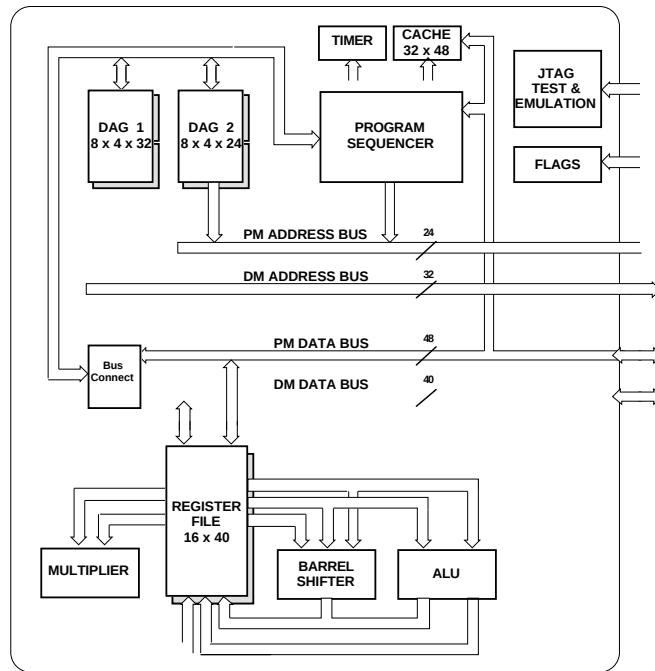
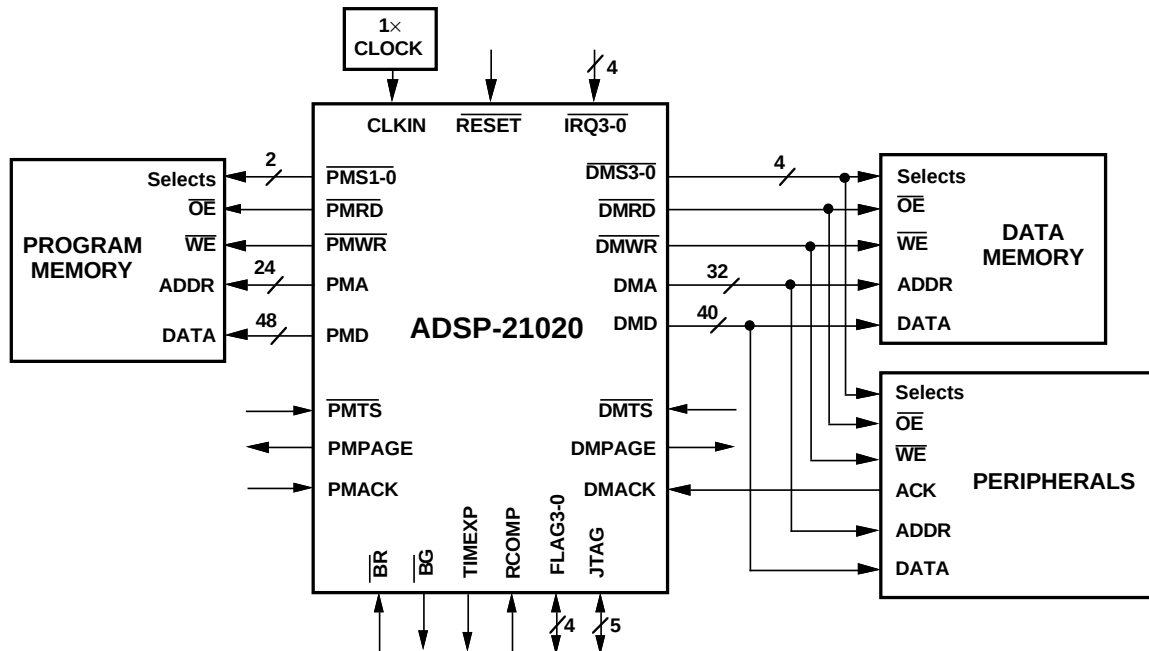

Figure 1.1 ADSP-21020 Block Diagram
Figure 1.2 ADSP-21020 System Diagram
The ADSP-210xx features an enhanced Harvard architecture in which the data memory (DM) bus transfers data and the program memory (PM) bus transfers both instructions and data (see Figure 1.1). With its separate program and data memory buses and on-chip instruction cache, the processor can simultaneously fetch two operands and an instruction (from the cache) in a single cycle.
The ADSP-21020 is the first member of the ADSP-21000 family. It is a complete implementation of the family base architecture. Figure 1.1 shows the block diagram of the ADSP-21020 and Figure 1.2 shows a system diagram.